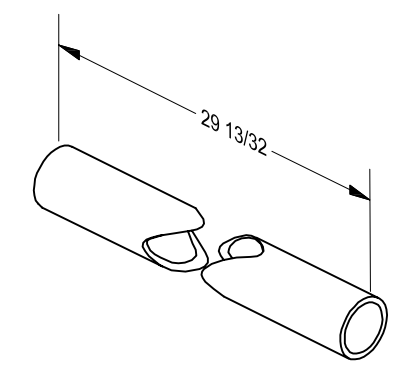

FIGURE 4: CUTTING TANK FUEL LINES
Step 5: Cut two fuel lines per the dimensions in Figure 4. Straighten out the lines at this time.